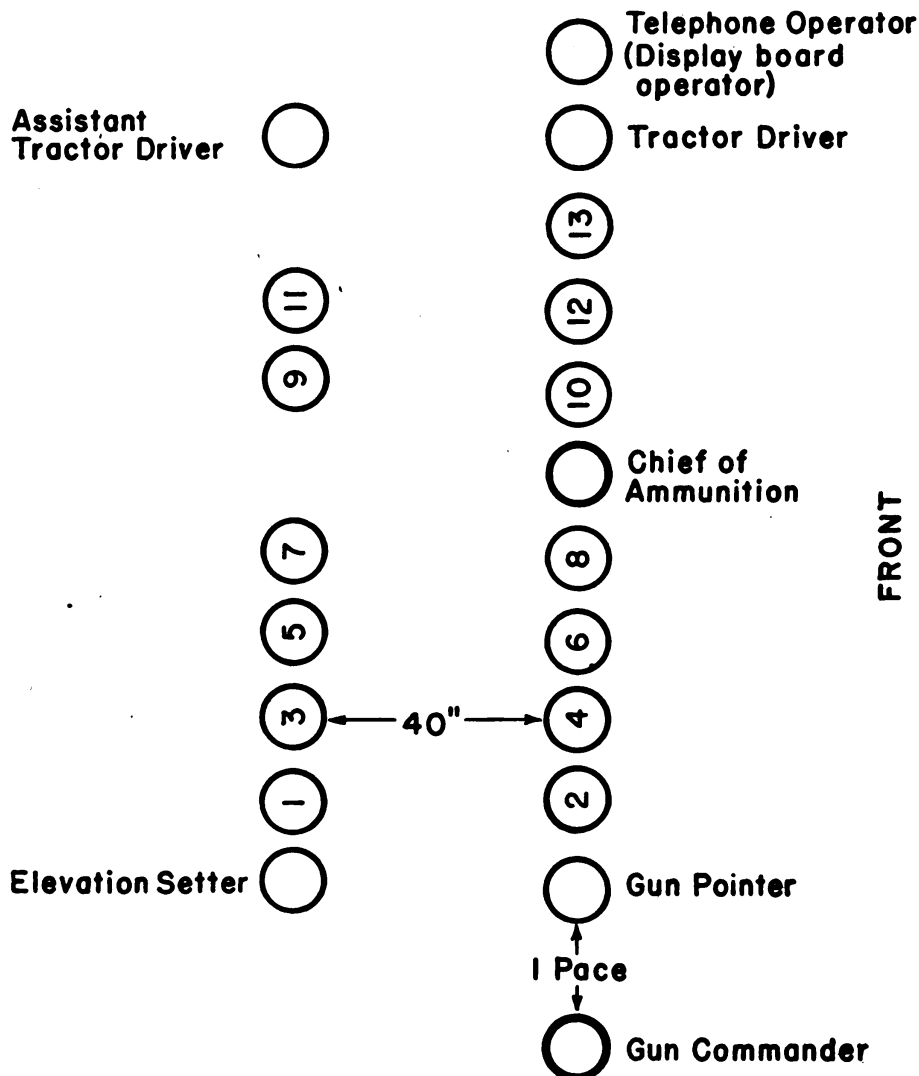

FIGURE 1.—Formation of 155-mm gun section.
Q. Describe the formation of the gun section. A. See figure 1.